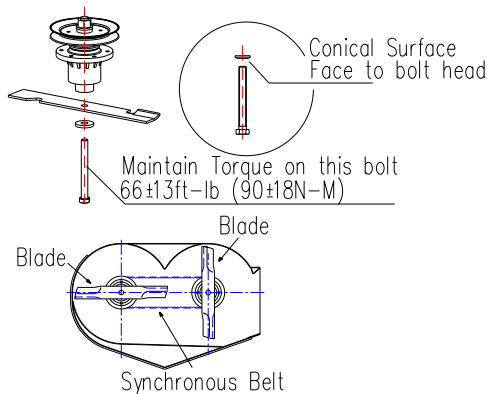

FIG 6
- Re-install the blades (if they were removed) by placing a block of wood between the front or rear baffles and the blade; then torque the blade bolts to 66±13ft-lb (90±18N-M). Be sure the spring disk washer cone is installed toward the bolt head. (See FIG 6)